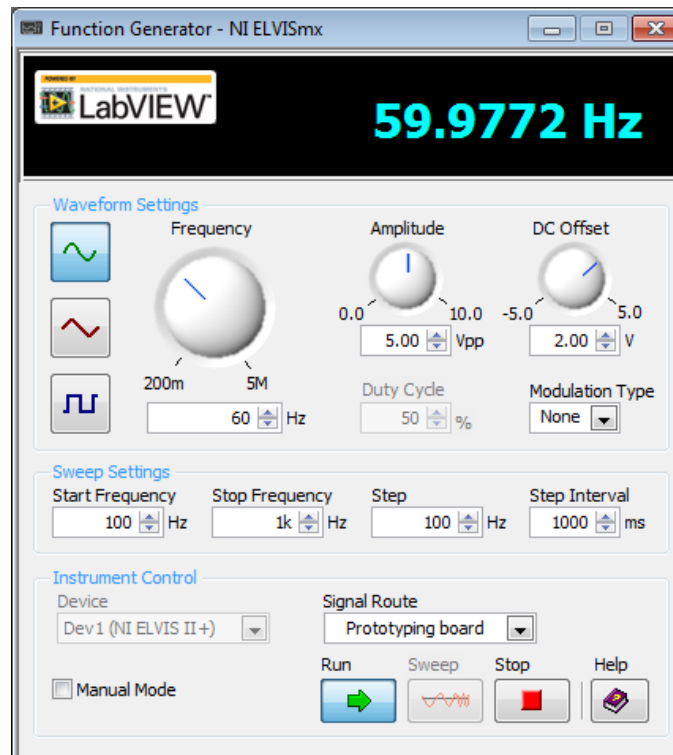

Figure 3: Function Generator Settings for Exercises 1-3
- 1) On your computer, open the Function Generator under the NI ELVIS Instrument Launcher. Adjust yours to match the settings as shown in Figure 3. With these settings, the voltage on your prototyping board from FGEN to GROUND can be described as $v(t) = 2 + 5 \cos(377t + 0^\circ)$ V. Measure this function on the NI ELVIS Oscilloscope. To do this,